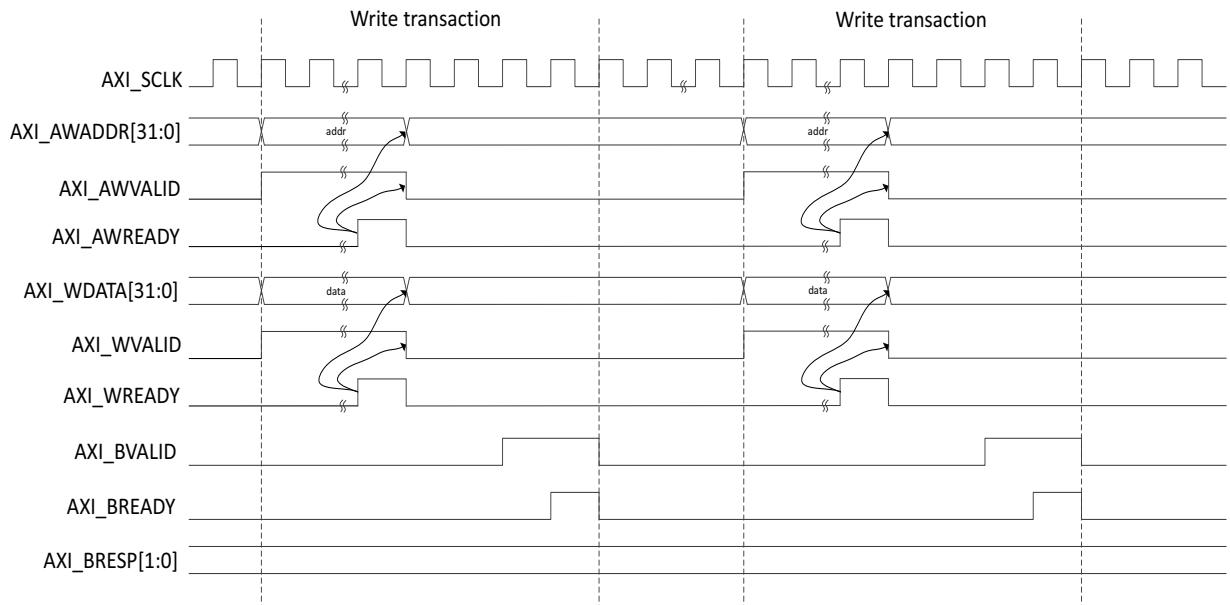
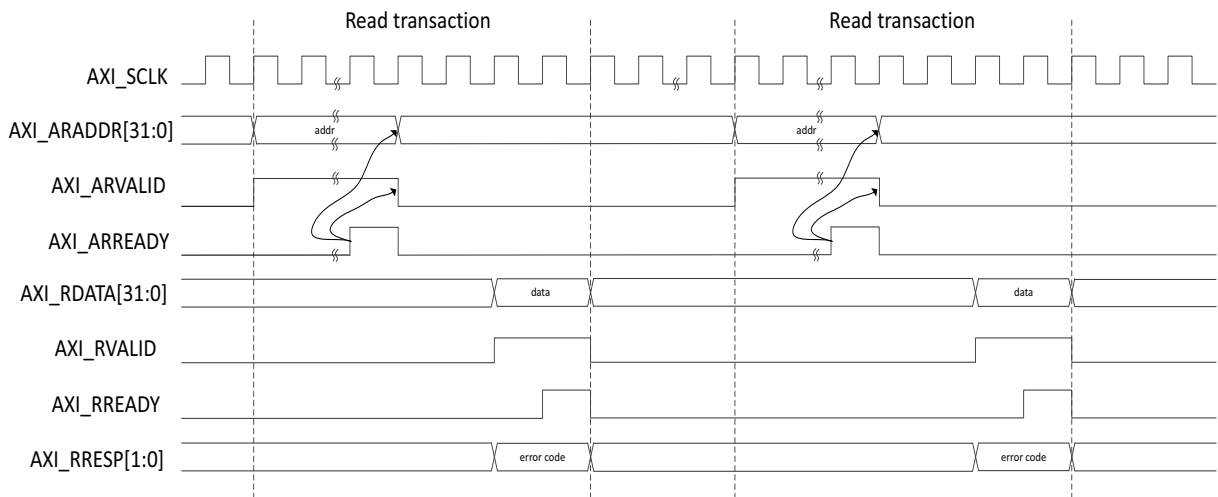

Figure 5-13: AXI4-Lite User Side Write Transaction
Figure 5-16: AXI4-Lite User Side Read Transaction with Invalid Read Address
Figure 5-13 through Figure 5-16 show timing diagram waveforms for the AXI4-Lite interface.
- Valid Write transactions (Figure 5-13)
- Invalid Read transactions (Figure 5-16)